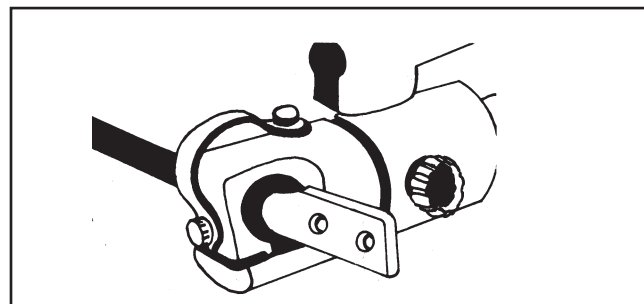

Figure 10
- e) Crimp the connection (*Figure 10*) per connector manufacturer’s recommendations.